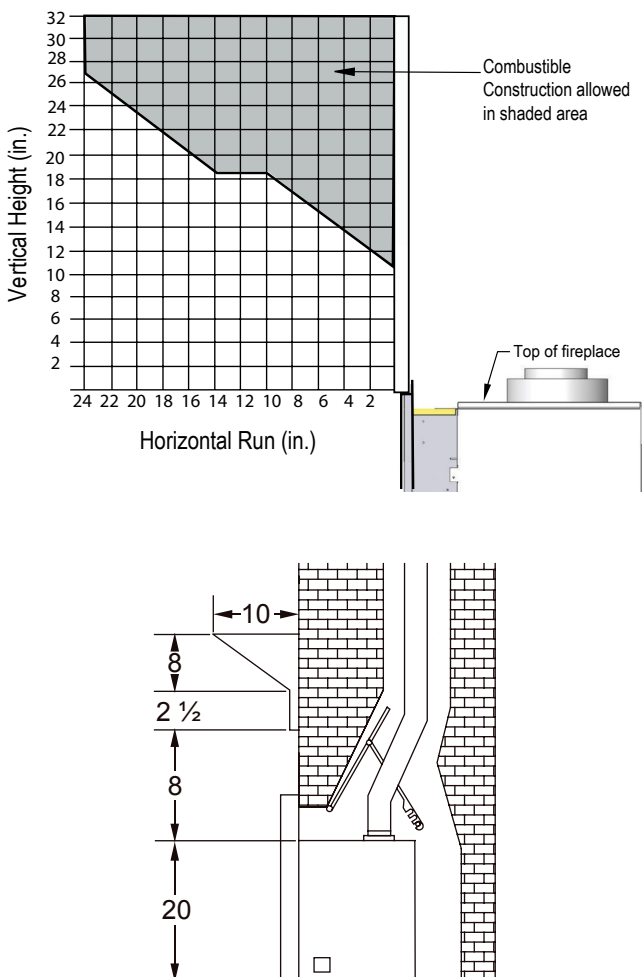

Figure 2. Mantle clearances.
- The appliance has a gas access hole on the left hand side, and it is supplied with a flexible gas connector on the left hand side of the insert, see **figure 2**.
† Refer to figure 2.